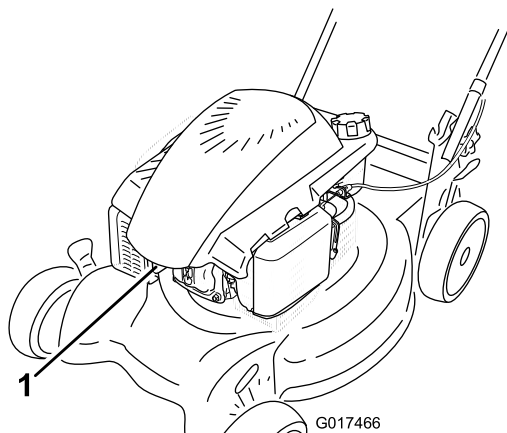

Figure 24
2. Disconnect the spark plug wire from the spark plug (Figure 24) before performing any maintenance procedure.